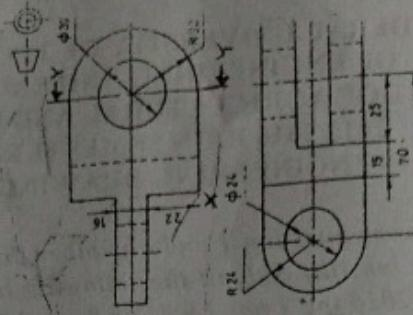

Figure 2
2. Make isometric drawing of the views in Figure 2, such that point X is the lowest point on the drawing.
4. a. Copy the views in Figure 2 and draw section Y-Y